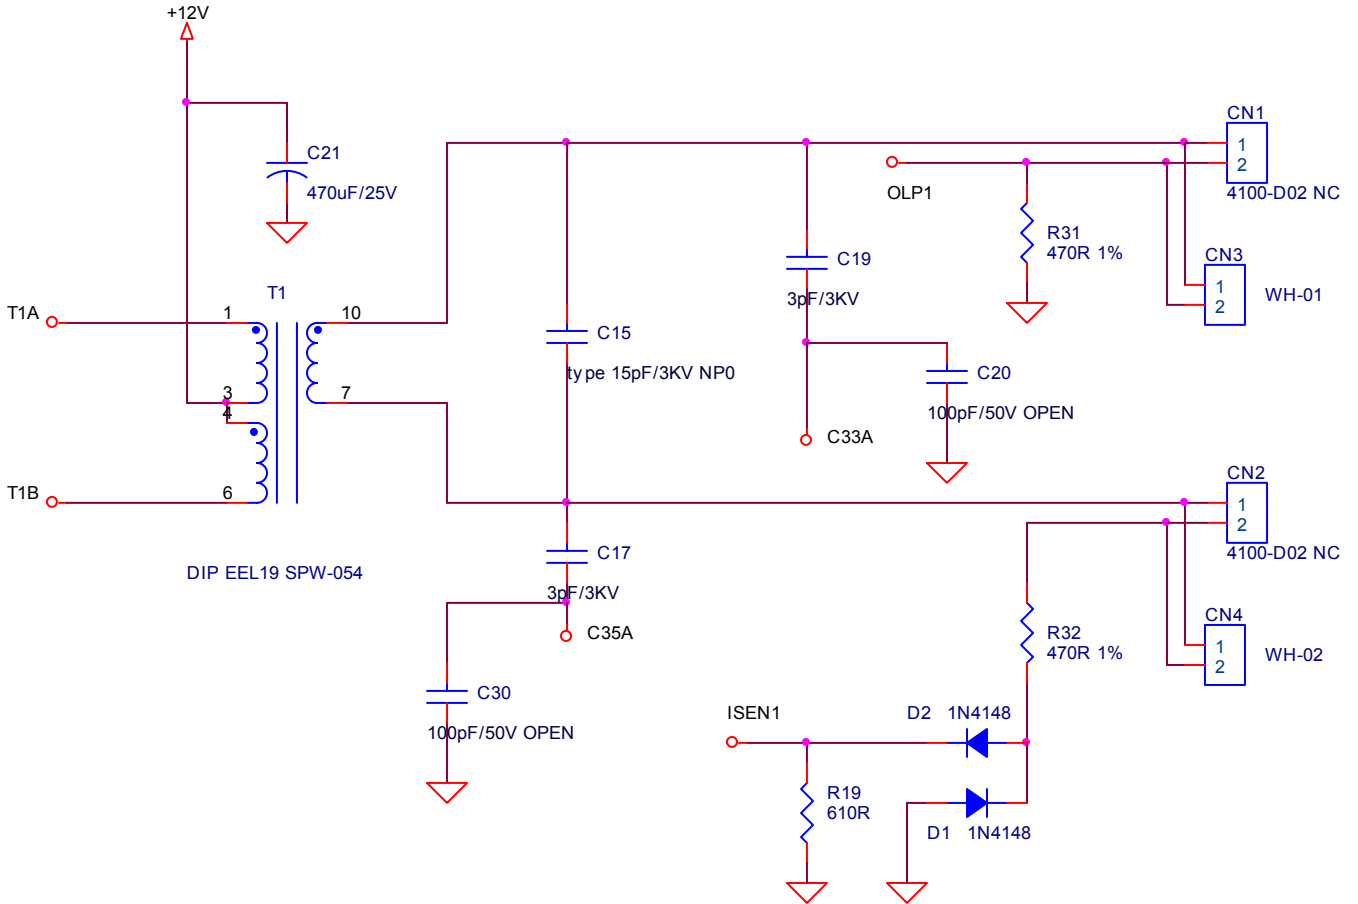

fig.3
2.1.2) Output Circuit and Protection Circuit :(fig.3)